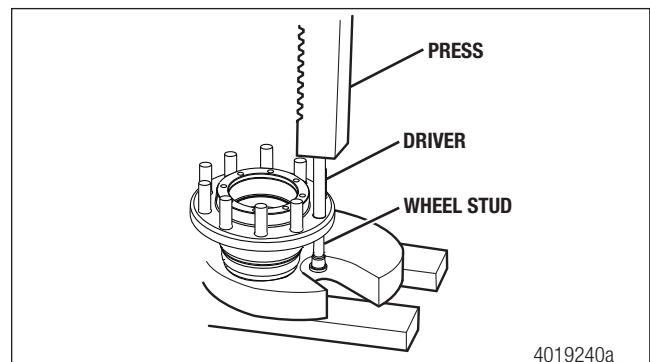

Figure 4.10
1. If it is necessary to remove the wheel studs from the hub, place the hub into a press. Support the hub flange and press the studs through the hub. Figure 4.10.